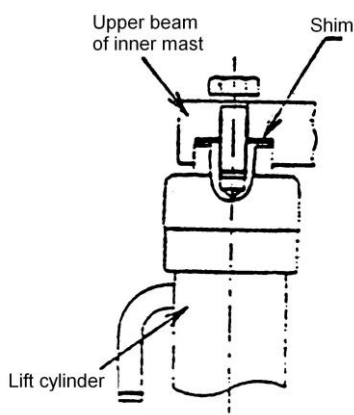

Fig. 8-5 Adjust lift cylinder
8.2.1 Adjust lift cylinder (Fig. 8-5)